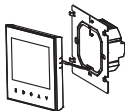

Fig. 1
1. Remove the installation plate, as shown in Fig. 1.